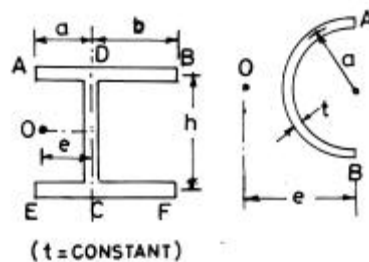

Fig. 6
6. Determine the location of the shear centre for the sections shown in Fig. 6.